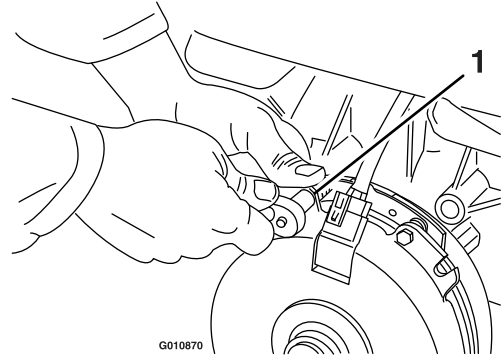

Figure 72
- A. Loosen both brake mounting bolts 1/2 to 1 full turn as shown in Figure 72.